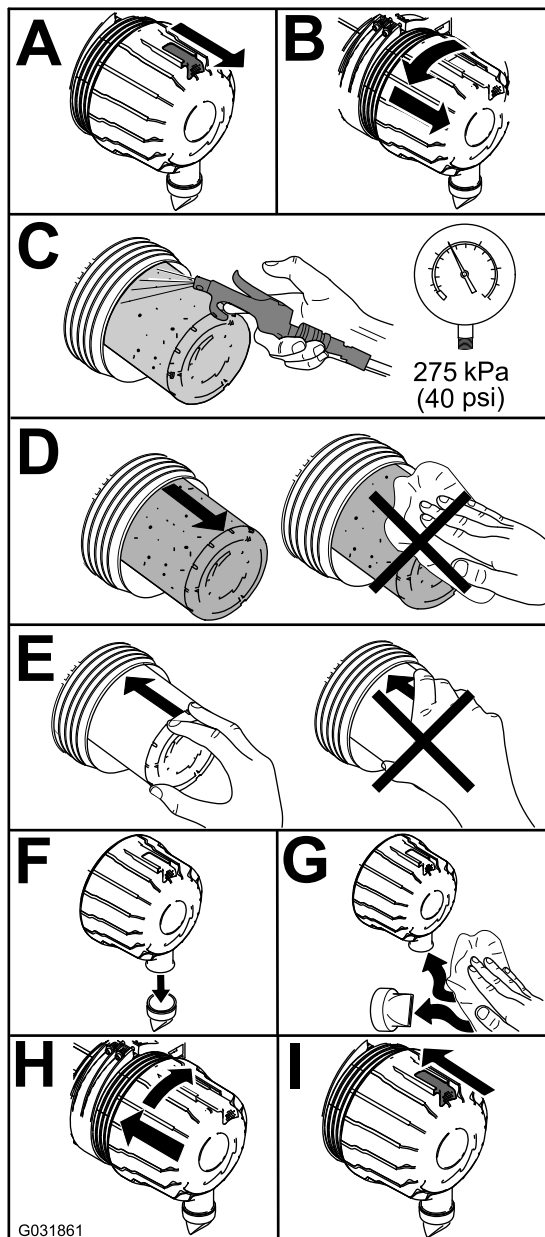

Figure 77
1. Replace the air cleaner (Figure 77).